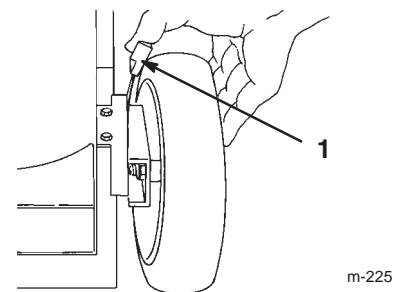

Figure 16
3. Set all four wheels in to the 2-1/2 in. (64 mm) cutting height setting (Fig. 16).
1. Pull the wheel height adjustment lever toward the wheel (Fig. 16) and move it to the desired setting.